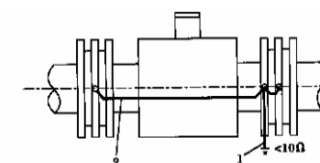

Figure 8.Installing the sensor on the plastic pipe or pipe with insulation liner
- Installing the sensor on the plastic pipe or pipe with insulation liner, Should has grounding ring or ground flange or Short tube with a ground electrode at both ends of the sensor. See Figure 8.